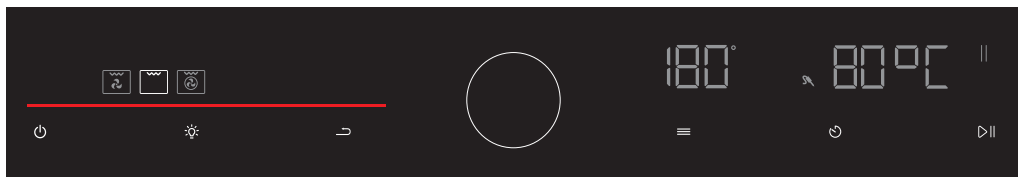

Figure 123
2. Grill () operates. (see figure 123)